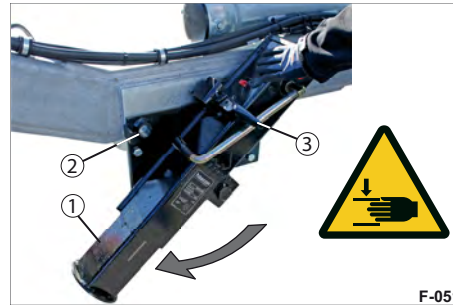

Fig. 50 Turning the swivel support
- ▶ Turn the swivel support (Fig. 50/1) into the vertical support position.
- ▶ Swing the locking lever (Fig. 50/3) downwards.
The pin retracts into the locating hole (Fig. 50/2).